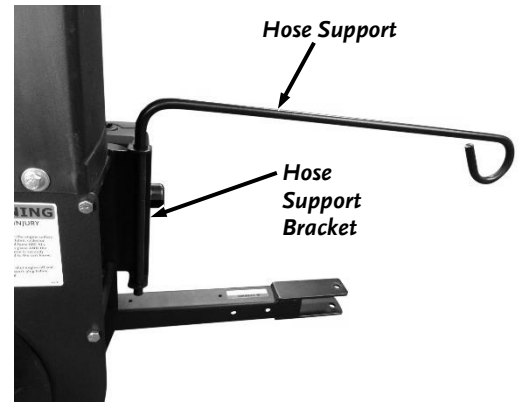

Figure 20
8. Slide the Hose Support into the holes of the Hose Support Bracket (**Figure 20**).